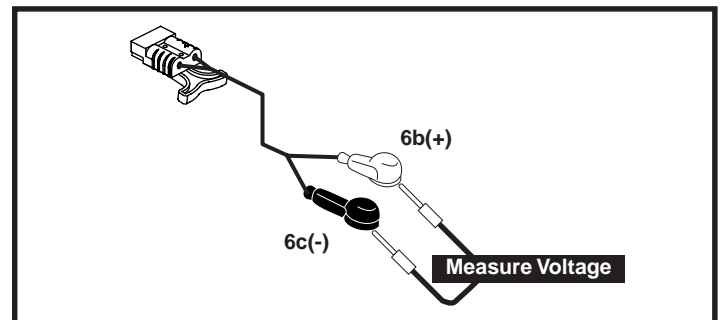

Figure 4. Connectors 6b and 6c
6. Measure voltage across connectors 6b and 6c. **See figure 4.**
- If your multimeter indicates greater than 0VDC, then replace the battery harness (6) and retest system.